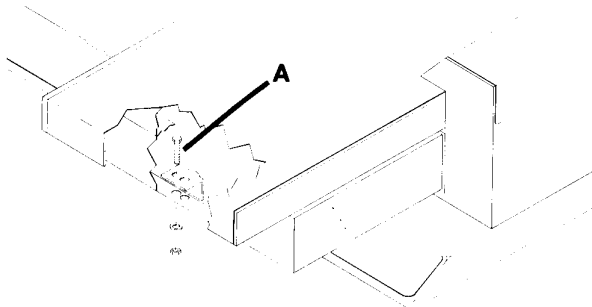

Fig. 24
- 2) Remove the (2) hex head bolts, (2) lockwashers, (2) hex nuts, and the metal stop tab, Items A, Fig. 24.
- 5) Extend step out the left side of the base and install (2) #6-32x $\frac{1}{2}$ " hex head bolts, (2) #6 lockwashers, (2) #6-32 hex nuts, and the metal stop tab, Items A, Fig. 24.
- 2) Remove (2) hex head bolts, (2) lockwashers, (2) hex nuts, and metal stop tab, Items A, Fig. 24.
- 5) Extend step out the right side of the base and install (2) #6-32x $\frac{1}{2}$ " hex head bolts, (2) #6 lockwashers, (2) #6-32 hex nuts, and the metal stop tab, Items A, Fig. 24.